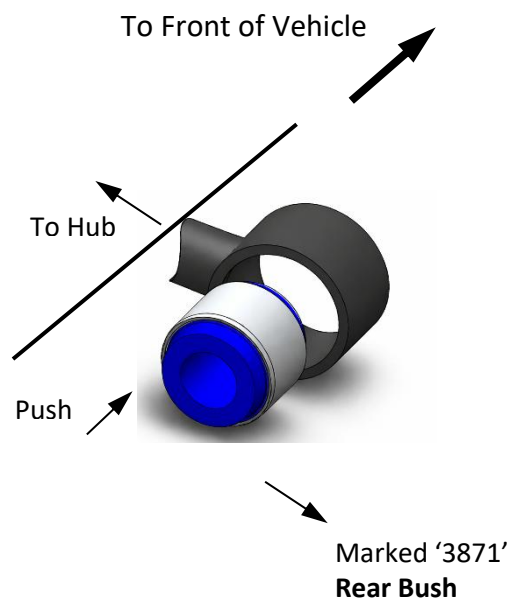

Figure 1. Rear Bush
- Press the new steel shell parts into the control arms (Refer to Figure 1 and figure 2 below for the direction of bush assembly into the arm).